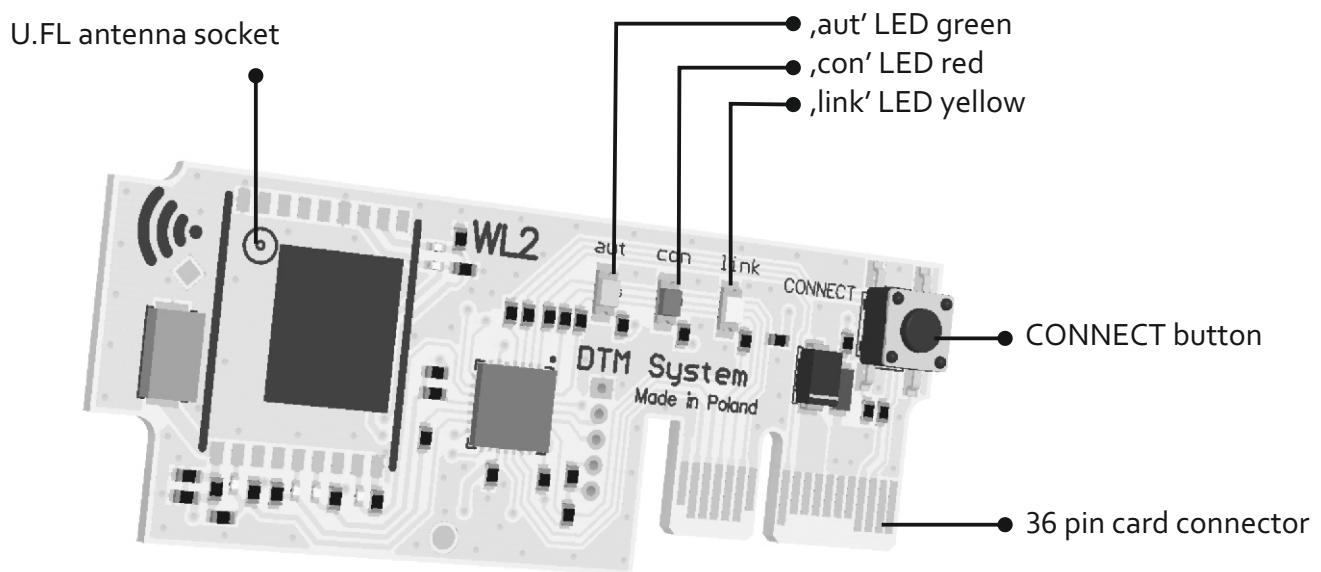

Abb.1. View of the WL2 card with the description of functional elements.
Step 8: Attach the end of the transitional antenna cable to the U.FL antenna socket on the WL2 card (Fig. 1), paying attention to the correct placement of the antenna cable (Fig. 2d).